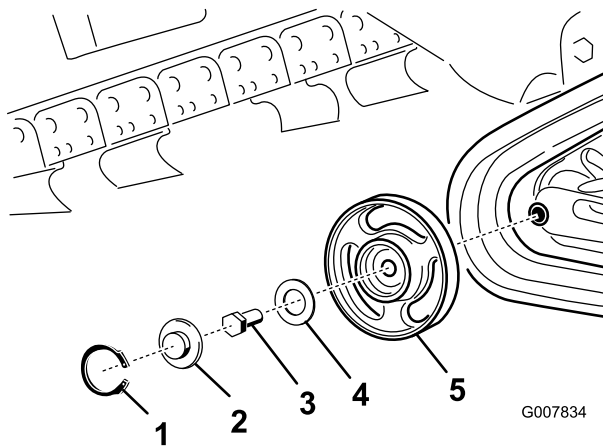

Figure 50
**Note:** You may need to remove the front, outside road wheel. To remove this wheel, remove the snap ring and cap from the center of the road wheel (Figure 50). Next remove the bolt and gasket from the center of the wheel and pull the wheel off of the machine.